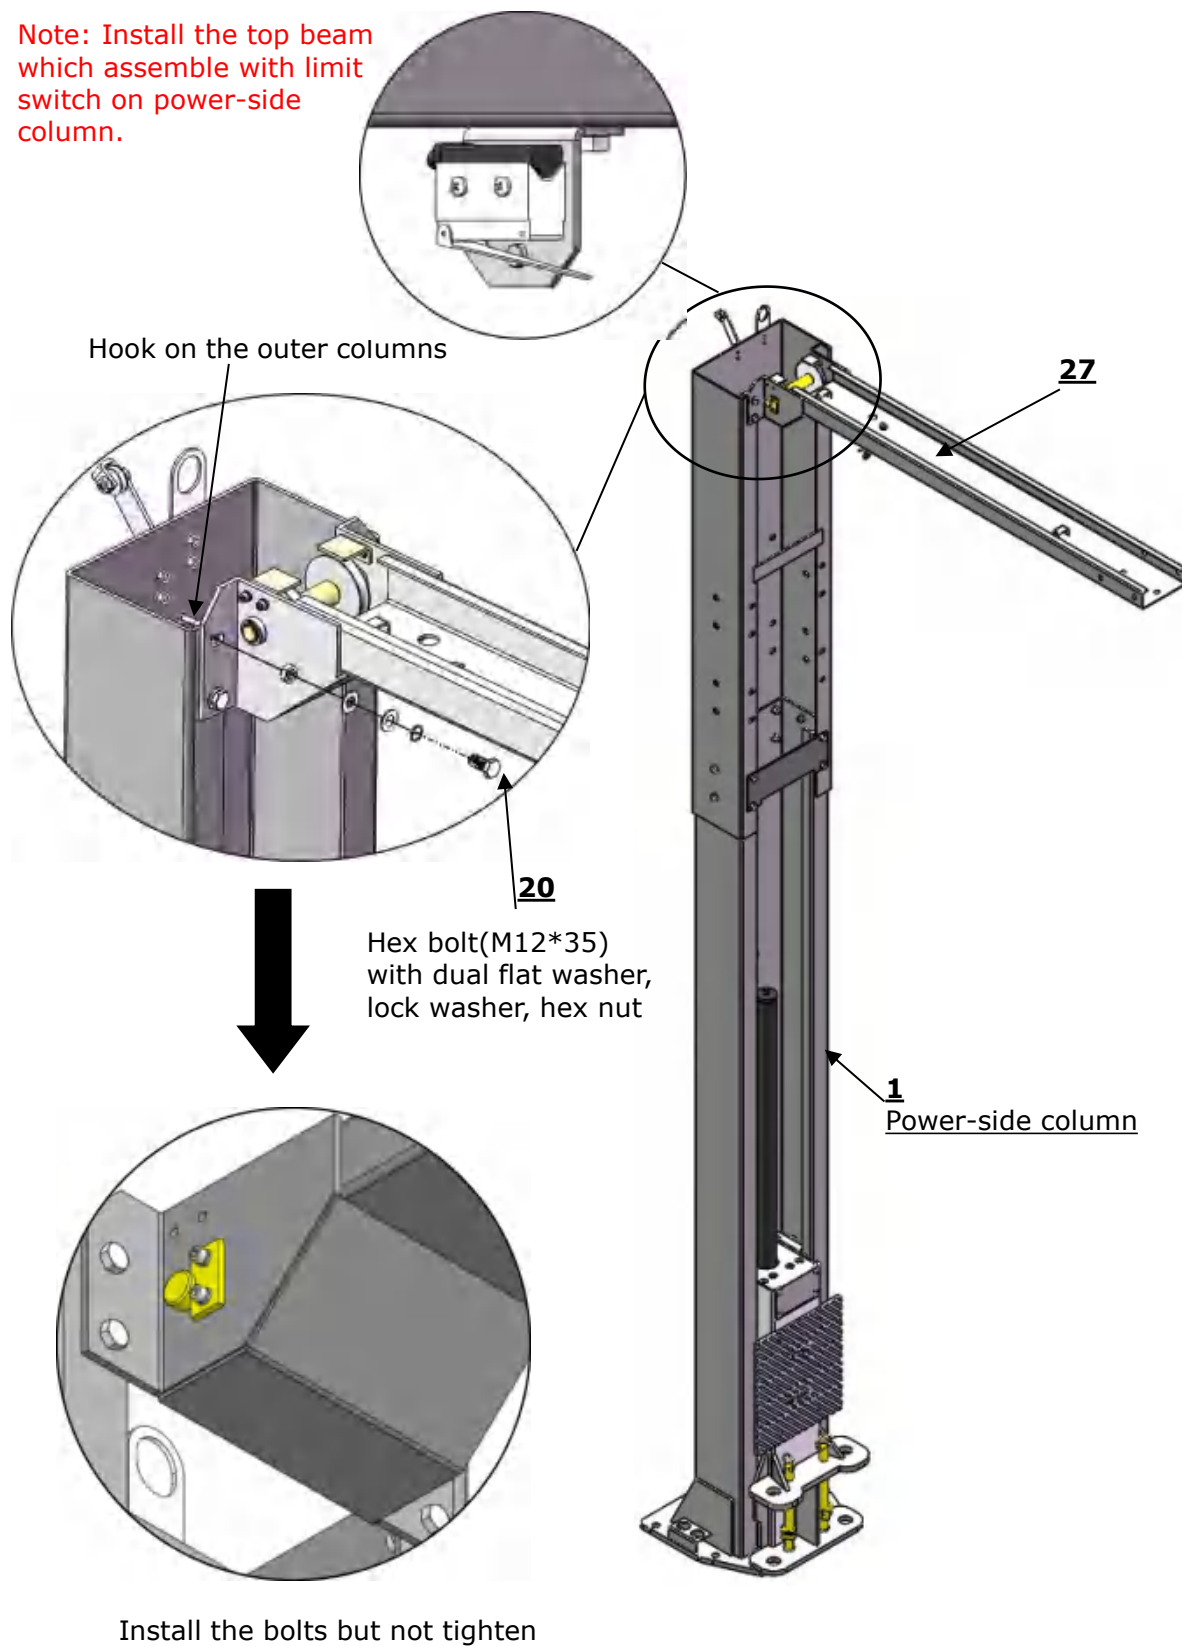

Fig. 24
1. Hang the hook of top beam(Assemble with limit switch) on the power-side outer column, and then align the holes and install the bolts. **(See Fig. 24)**